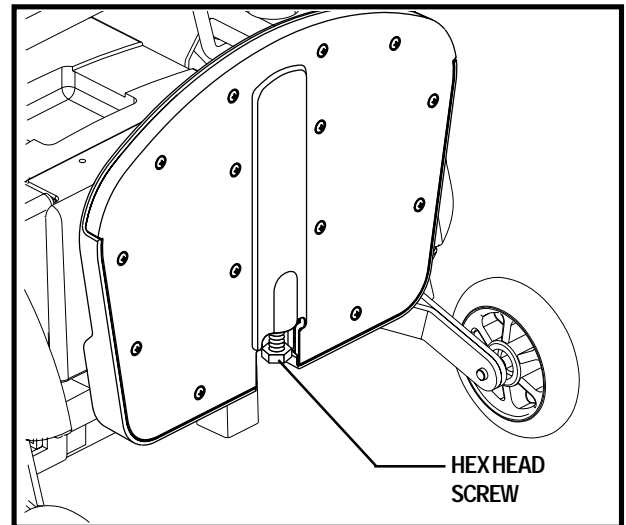

Figure 27. Foot Platform Angle Adjustment
1. Flip up the foot platform and locate the setscrew. See figure 27.